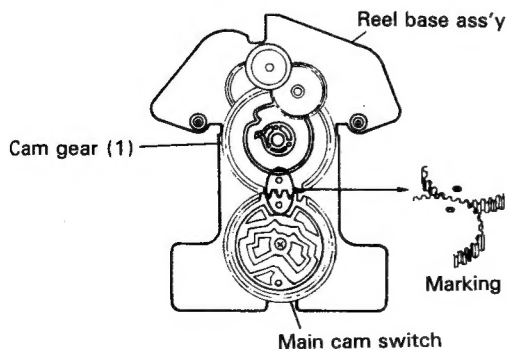

Fig. 8
1. Remove two screws (7) and five screws (8) securing the reel base.
* Reassembling the cam gear (Fig. 8)